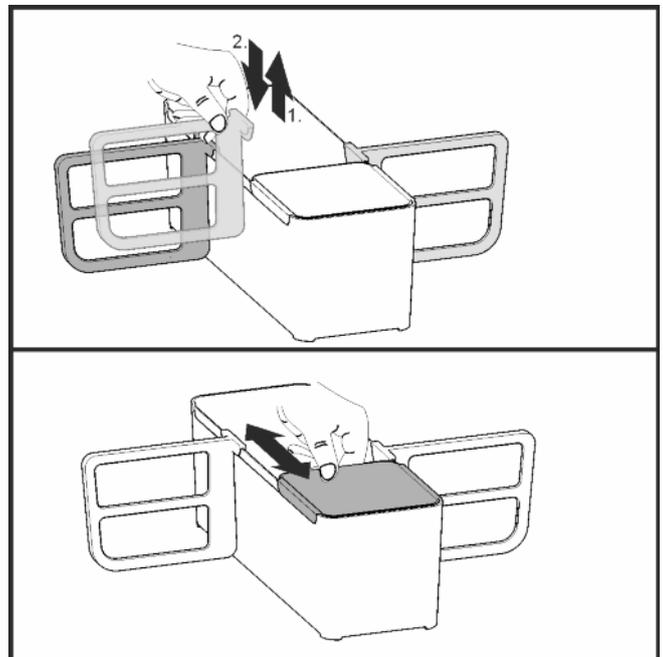

*Fig. 16*
- ▶ Replacing the Fruit & Vegetable safe cover: Guide the ridges on the cover into the rear brackets *Fig. 16 (1)* and click it into the front bracket *Fig. 16 (2)*.